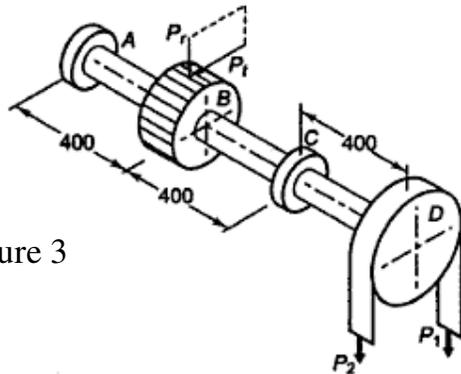

Figure 3
6. A transmission shaft supporting a spur gear B and pulley D is shown in figure 3. The shaft is mounted on two bearings A and C. the diameter of the pulley and the pitch circle diameter of the gear are 450 and 300 mm respectively. The pulley transmits 20 kW power at 500 rpm to the gear. The belt tension ratio is 3. The material of the shaft is steel with ultimate strength 700 MPa and yield strength 460 MPa. Take the shock and fatigue correction factors are 1.5 each. The gear and pulley are keyed to the shaft. Determine the diameter of the shaft.